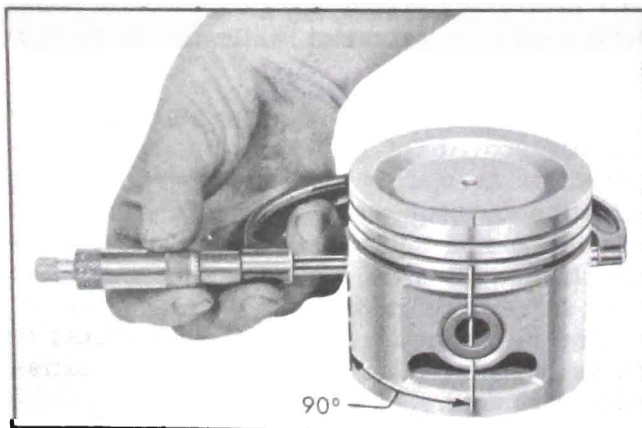

Figure 2-45—Measuring Piston
The pistons are cam ground, which means that the diameter at a right angle to the piston pin is greater than the diameter parallel to the piston pin. When a piston is checked for size, it must be measured with micrometers applied to the skirt at points 90° to the piston pin. See Figure 2-45. The piston should be measured (for fitting purposes) $1/4$ below the bottom of the oil ring groove.
Before the honing or reboring operation is started, measure all new pistons with micrometer contacting at points exactly 90 degrees to piston pin (Fig. 2-45) then select the smallest piston for the first fitting. The slight variation usually found between pistons in a set may provide for correction in case the first piston is fitted too free.
3. Measure the piston to be installed. See Figure 2-45. The piston must be measured at right angles to the piston pin 1/4" below the oil ring groove. The piston must be between .001" and .0015" smaller than the cylinder bore.